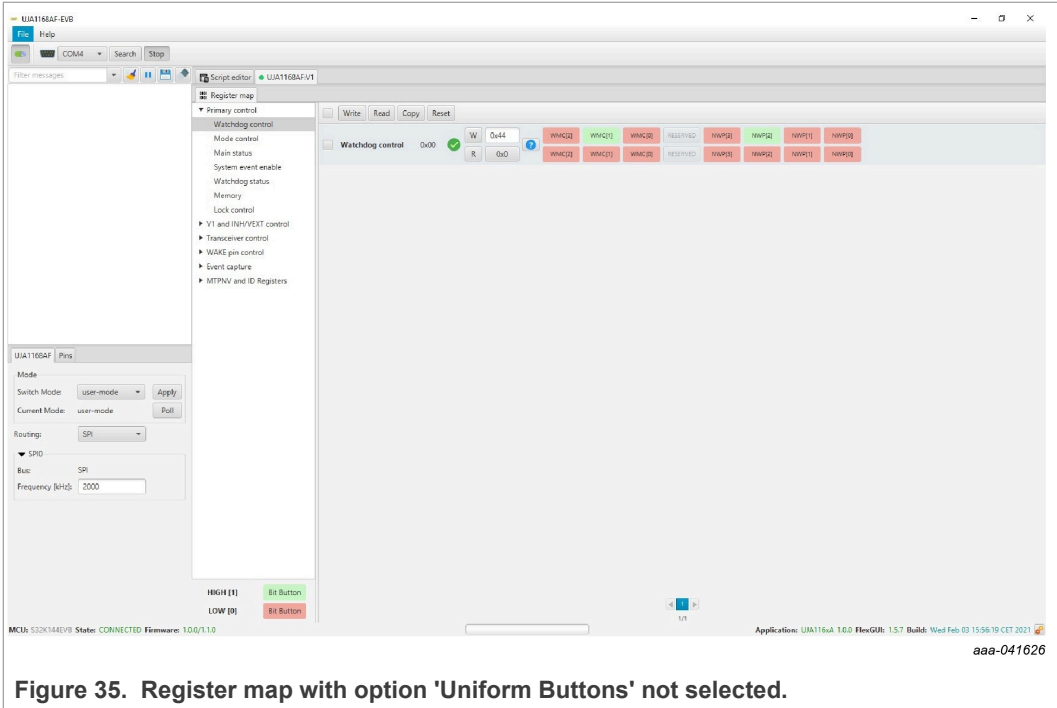

**Figure 34. Advanced options for register map**
The contents of the selected register, or register group, is displayed in the main window. Register data can be edited in the top row in preparation for writing to the register. When option **Use Register Init Value** is selected, the editor is initialized with the default values at start-up and reset (Figure 34). If this option is not selected, all bits will be 0 at start-up and reset.
- Clicking the **Reset** button undoes changes made to the 'write' row(s) since the most recently executed write action(s) on the associated register(s). If a register has not been previously written to, the selected rows are re-initialized (with the default values as selected via the **Use Register Init Value** check box; see Figure 34).